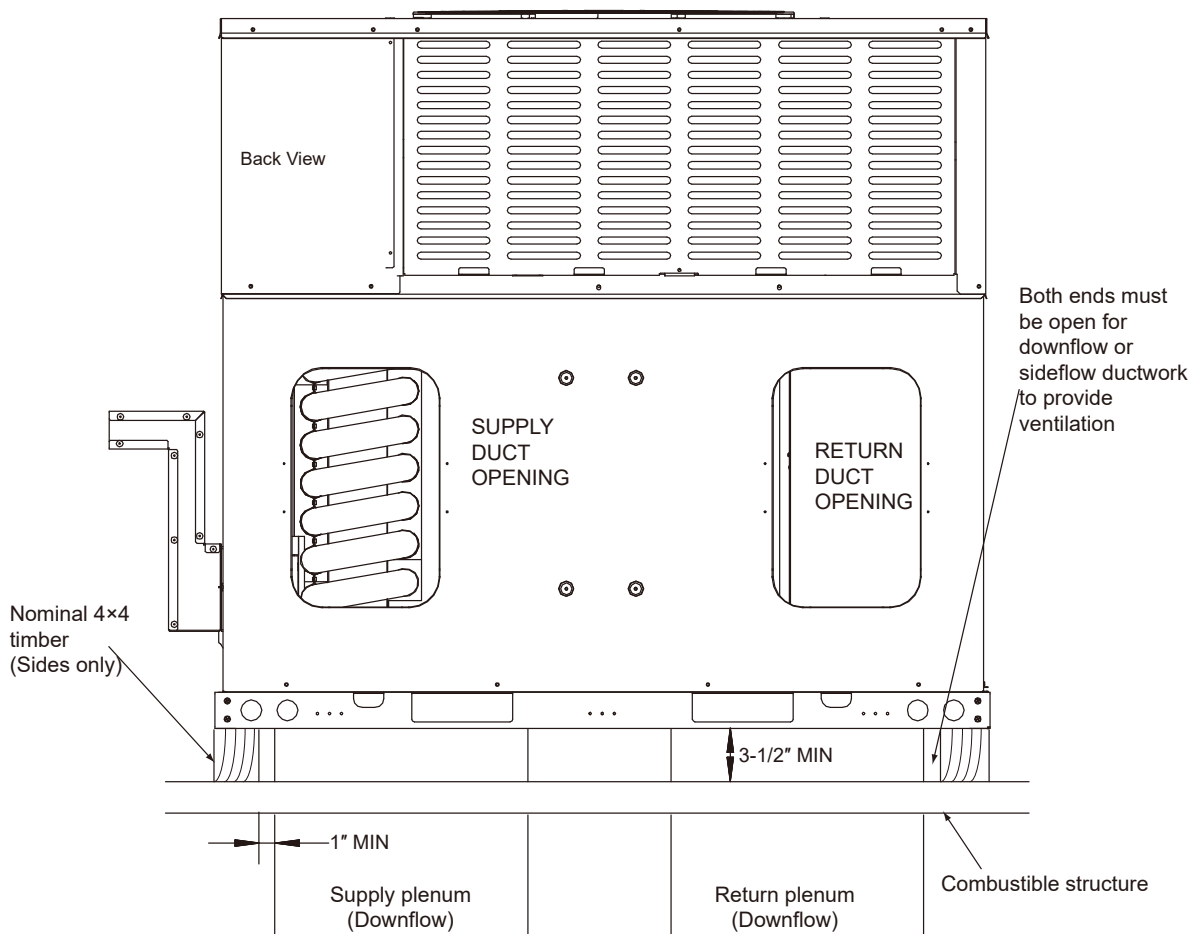
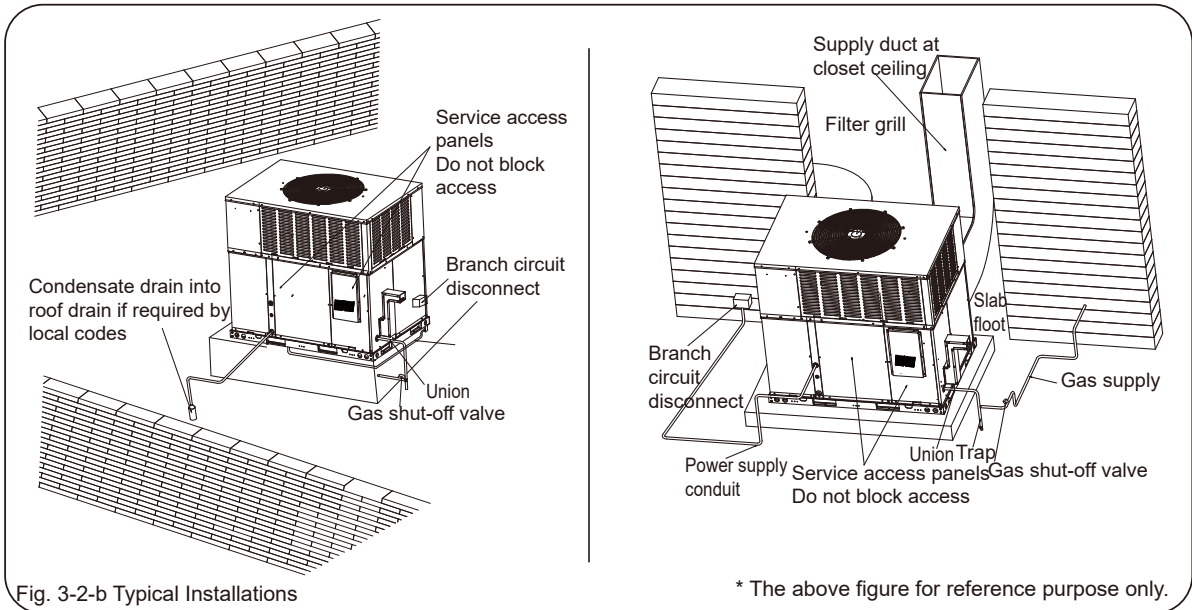
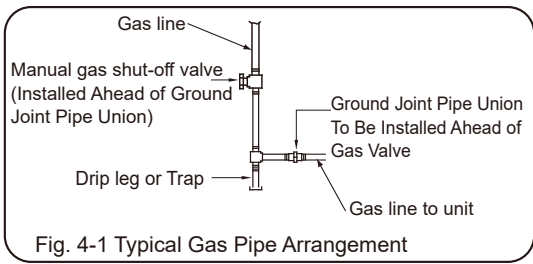

Fig. 3-1 Exception to non-combustible flooring requirement
Fig. 3-2-b Typical Installations
Fig. 4-1 Typical Gas Pipe Arrangement
Typical outdoor installation is shown in Figure 3-2:
This unit must not be installed directly on wood flooring, Class A, Class B or Class C roof covering materials, or any other combustion structure except as specified in Fig.3-1. Failure to adhere to this warning can cause a fire or explosion resulting in property damage, personal injury or death.
Be sure to note supply and return openings. Refer to Fig. 3-1, Fig. 3-2, Fig. 3-3, Fig. 3-4, Fig. 3-5, Fig. 3-6, Fig. 3-7 and Fig. 4-1 for information concerning rear and bottom supply and return air duct openings.
2. Connect the gas line to the gas pipe inlet opening provided into the 1/2" inlet valve. See Fig. 4-1 for typical piping.